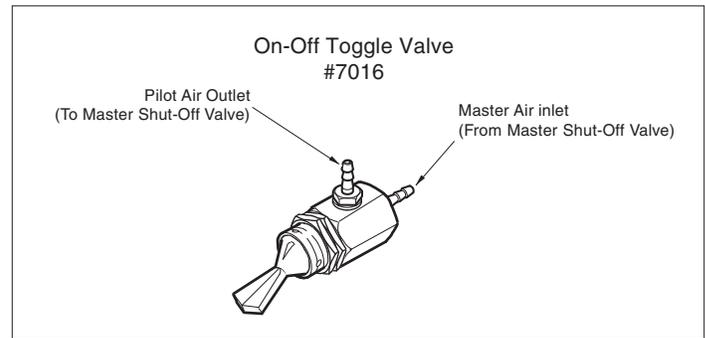

Figure 3
3. It is sometimes desirable to install an on-off toggle valve on the utility center. A 1/2" diameter hole is provided on the utility center housing for mounting the valve. (*Figure 3*) shows the tubing connections for a typical on-off valve.